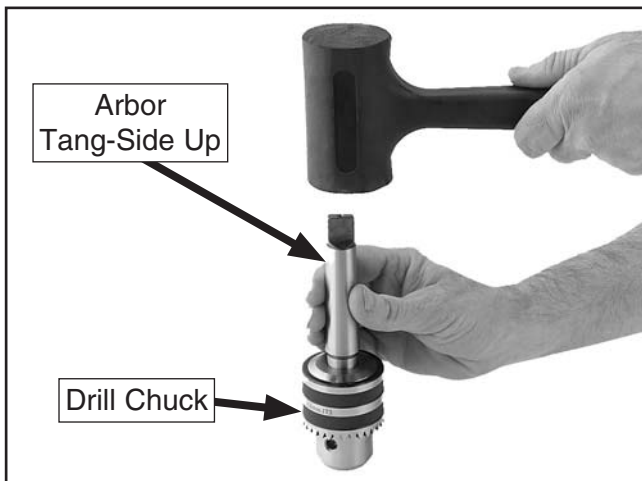

Figure 14. Seating the arbor into the drill chuck.
6. Insert the short taper of the arbor into the tapered socket of the drill chuck, then lightly tap it with a rubber or wooden mallet, as shown in **Figure 14**.